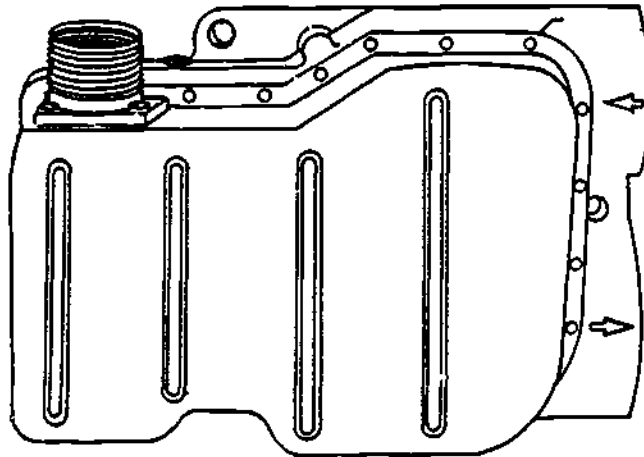
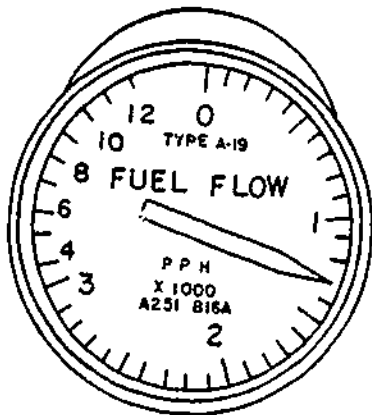

Figure 1.
Figure 2.
For a single engine aircraft, the components in the fuel flow system consist of a fuel flow transmitter (figure 1) and an individual indicator (figure 2).
Refer to figures 1 through 3 and circle the letter of the correct response to the following statement.
The individual fuel flow indicator (figure 2) indicates a rate of fuel flow from 0 to 12,000 pounds per hour (PPH). Each digit (1, 2, etc) is multiplied by 1,000 pounds per hour of fuel flow. From 0 to 3 there are ten (10) increments (marks) from one digit to another. Therefore, these increments equal 100 PPH of fuel flow. From 3 to 12 each mark or digit equals 1,000 PPH.
2. The individual indicator in figure 2 indicates the rate of fuel flow is